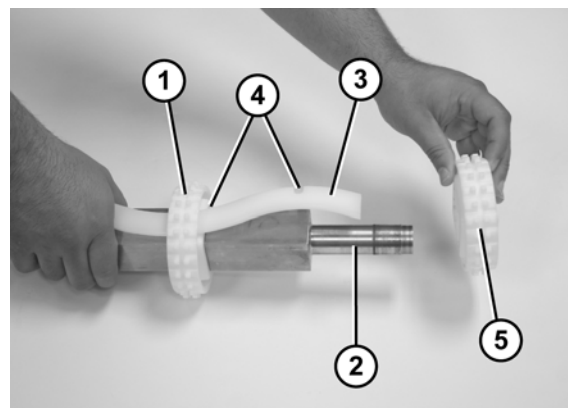

Figure 71
1. Slide the first sprocket (**Figure 71, item 1**) onto the drive spindle (**Figure 71, item 2**).
2. Insert the sprocket alignment bar (**Figure 71, item 3**) into the first sprocket and align the sprocket with the notch (**Figure 71, item 4**) in the sprocket alignment bar.
3. Slide the remaining sprockets (**Figure 71, item 5**) onto drive spindle and align each sprocket with the notches (**Figure 71, item 4**) in the sprocket alignment bar.